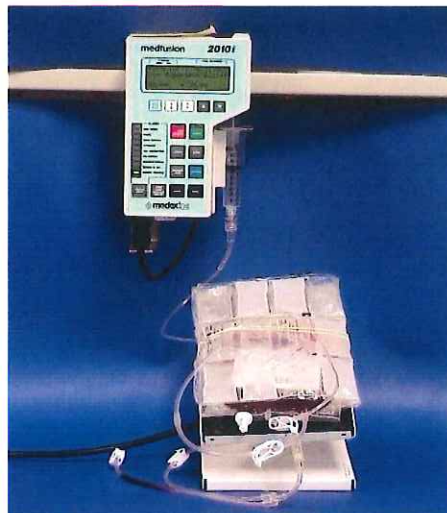

Figure 1
8.4 Metered Flow Injection (*Figure 1*)